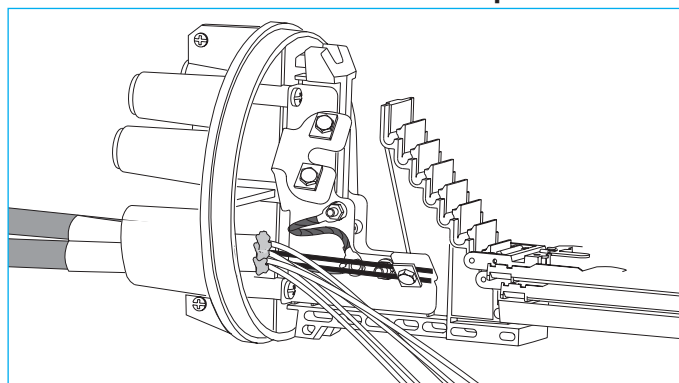

Figure 19.
Locate the two preinstalled twisted copper bonding cables attached to the tray bracket. One end of each twisted copper bonding cable is attached to the metal tray bracket; the other end is an eyelet to which bond wires from cables will be attached with the supplied nut and bolt assembly. (Figure 19) Each twisted copper bonding cable can accommodate two bond wires from fiber optic cables. Cables are now bonded with the base, which can be externally grounded using feedthrough studs or through external ground wires.
- 9.3.2 Loosen the square washer and place the strength member(s) underneath it. Tighten the square washer to secure the strength members against the base. (Figure 19 page 8)